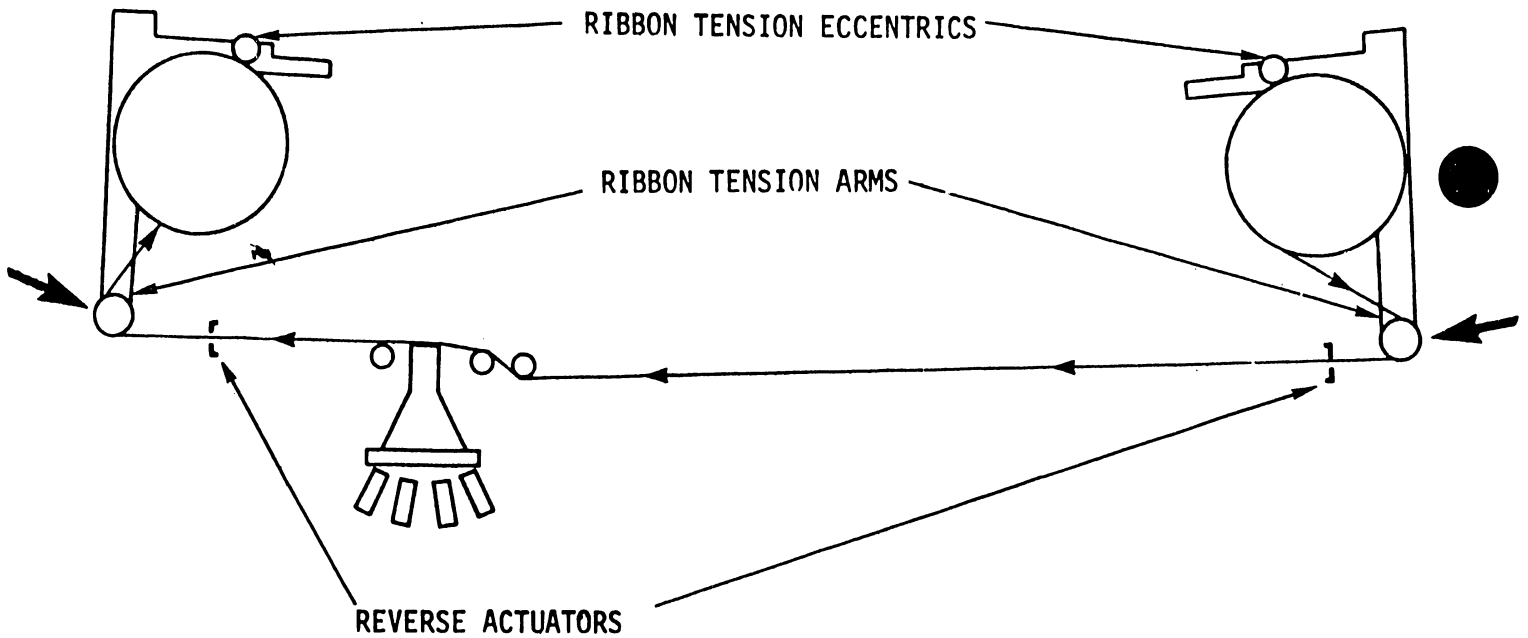

FIGURE 5-25 RIBBON TENSION ARMS (CHECKS AND ADJUSTMENTS)
- 2) Ribbon Tension Arms (Figure 5-25) - With the power off, wind one spool of ribbon manually several turns with your finger. After winding, release the spool and as ribbon tension arms come to rest, observe which one comes to rest last. The side which is pulling should stop last. For instance, if you were winding from the right spool and you suddenly released it, the tension arm of the right side will come to rest after the left tension arm.
- 2) Ribbon Tension Arms (Figure 5-25) - If an arm comes to rest too early, adjust the ribbon eccentric stop on that assembly with the high dwell of the eccentric away from the ribbon spool.